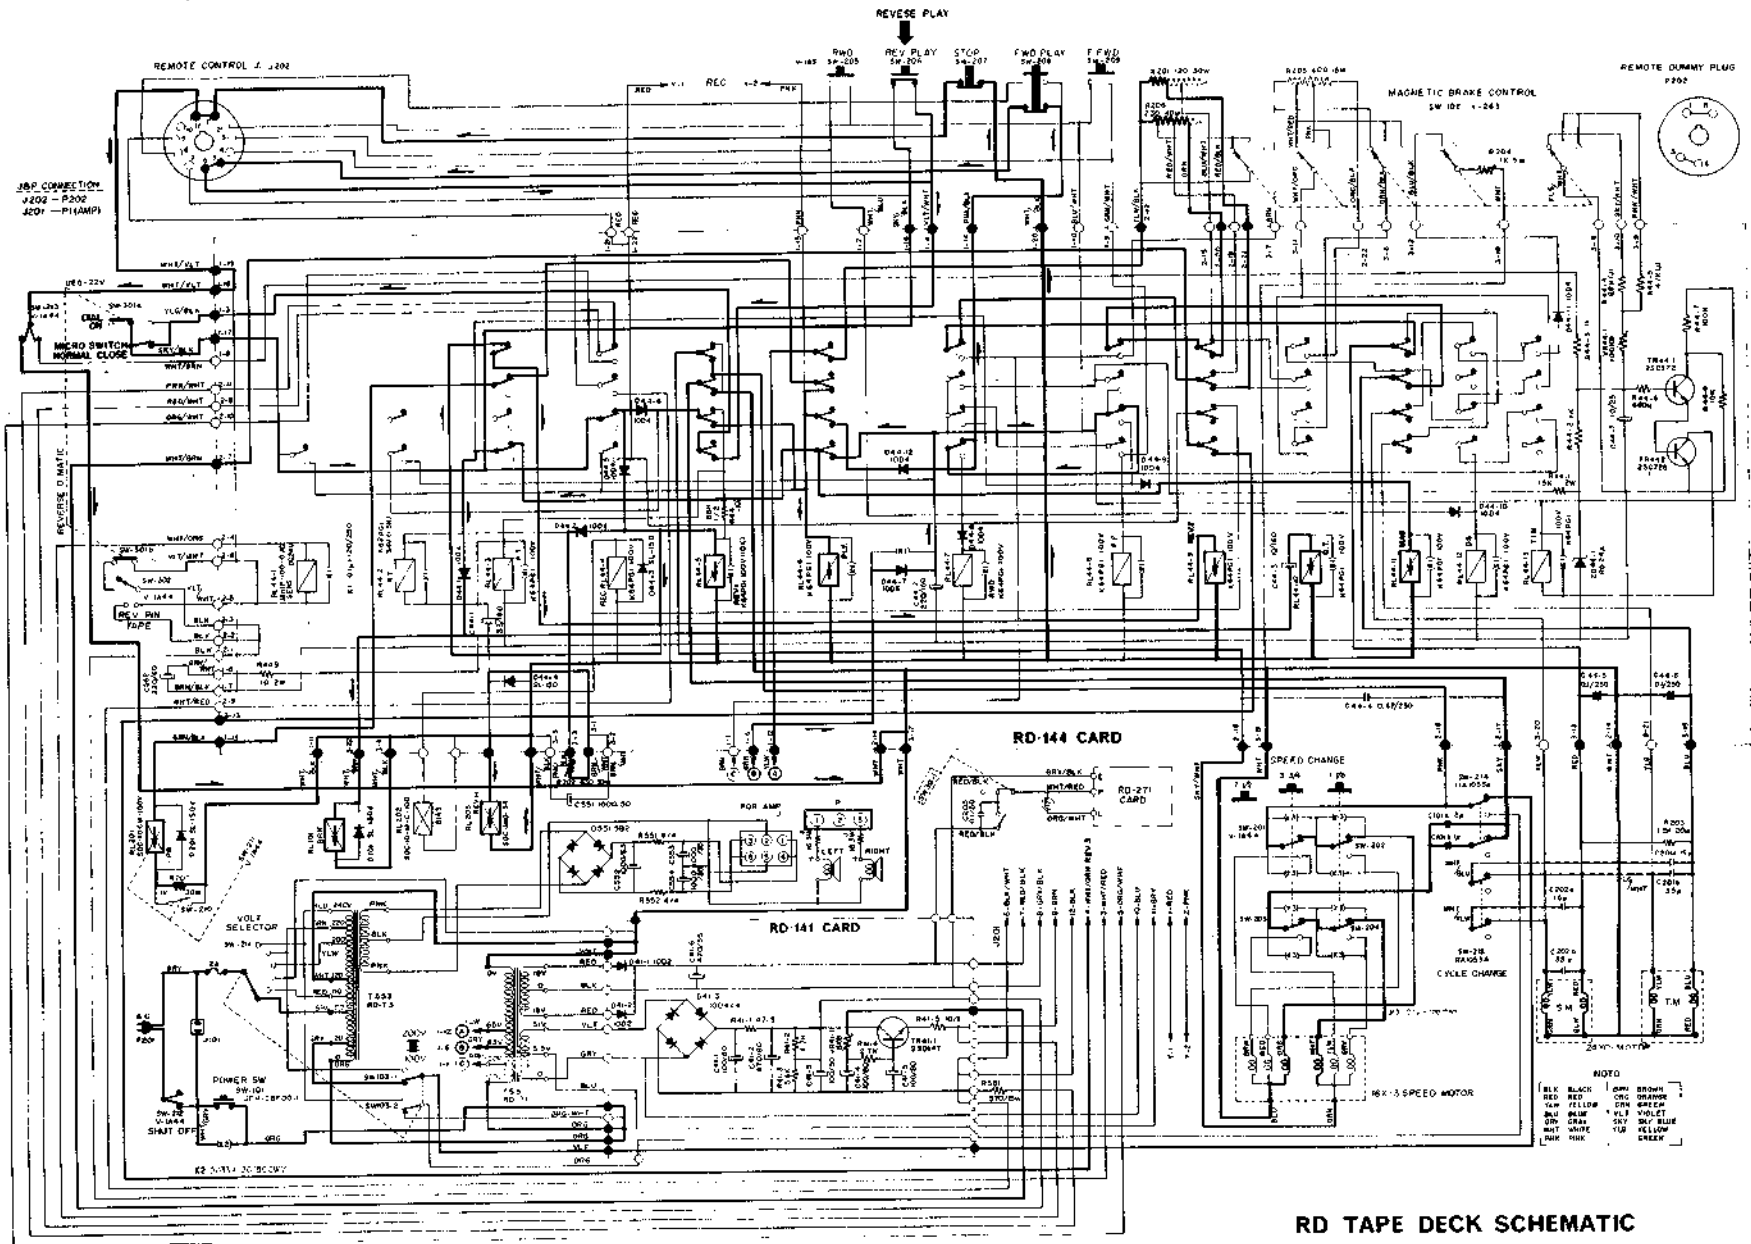

Fig. 8
Relay operation can be clearly understood by referring to the System Control Board Block Diagram (Figure 8). As soon as REVERSE is actuated ("ON") at point (A), current begins to flow in the Reverse Circuit. Since it takes about 15 milliseconds before the contact is operative, C1 (220  $\mu$ F) is charged within approximately 5 milliseconds through REV1-2 (normally closed contact).